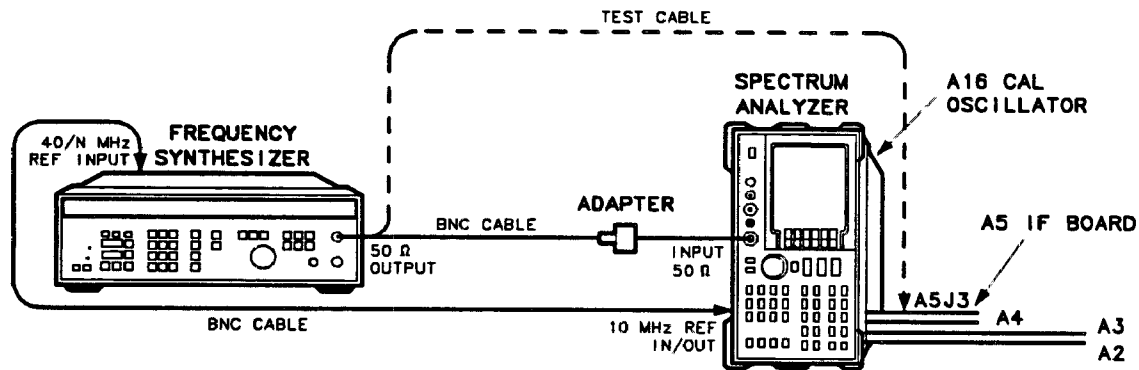

Figure 2-5. IF Amplitude Adjustment Setup
1. Set the HP 8562A/B **LINE** switch to OFF. Remove the analyzer's cover and place the analyzer in the service position as illustrated in Figure 2-5.